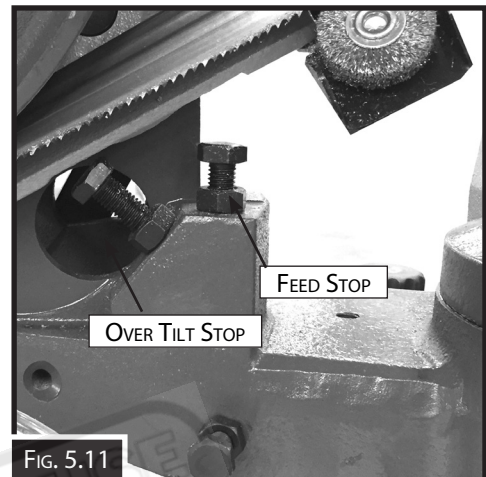

FIG. 5.11
4. Check that the "0" head stop is hard up against the stop pin. If there is a gap between the pin (Fig. 5.11) and the stop screw, then loosen the lock nut and adjust the stop bolt until it rests against the pin.